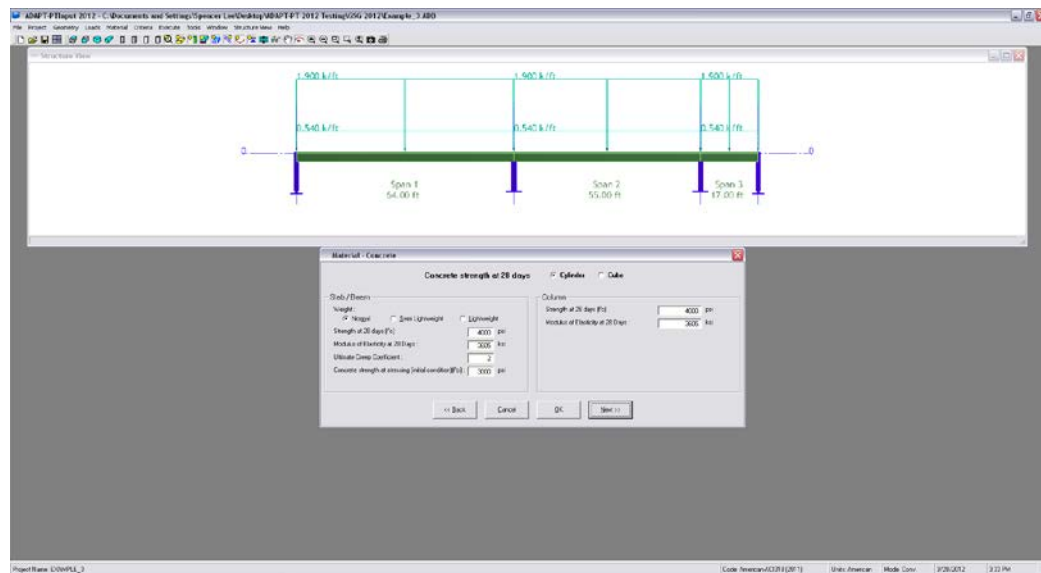

FIGURE 4.2-9
4.2.4.1 Enter The Properties Of Concrete (Fig. 4.2-9)